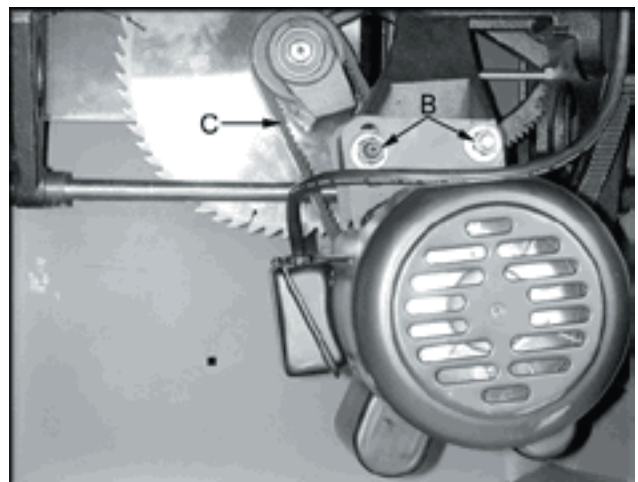

Figure 25
3. Loosen two hex nuts (B, Figure 25).
4. Take tension off of the belts (C, Figure 25) by lifting up on the motor.
6. Replace and tension the belts. The weight of the motor should apply sufficient tension to belts. Tighten the hex nuts (B, Figure 25).